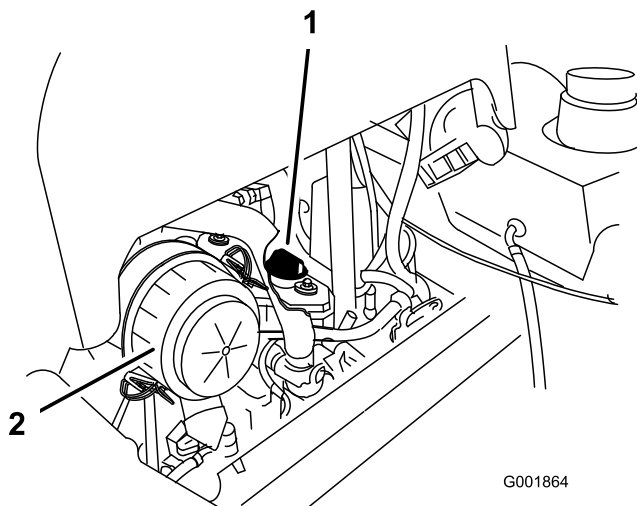

Figure 47
2. Remove the oil filler cap and the dipstick (Figure 47).